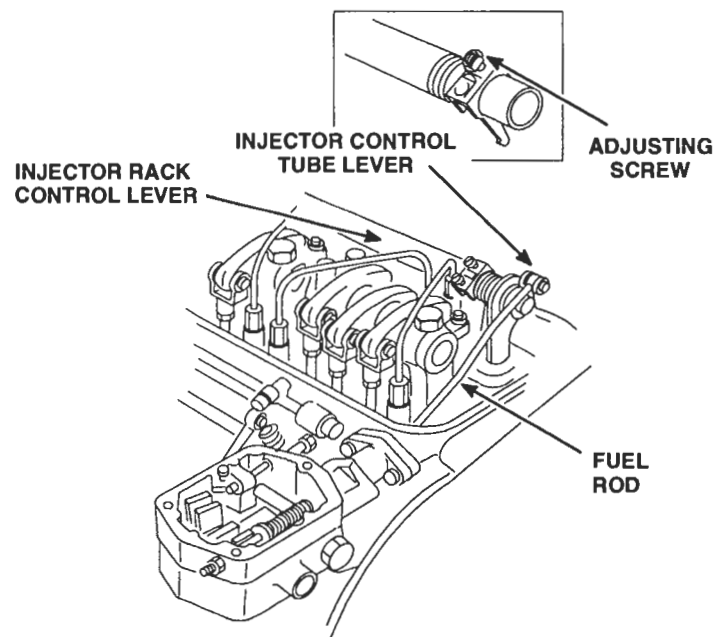

Figure 2. Positioning No. 1 Injector Rack Control Lever
1. **Two Screw Assembly** — Turn the outer adjusting screw in until a slight movement of the injector control tube lever is observed (Figure 2.) Tighten the inner adjusting screw.
One Screw and Locknut Assembly — Turn the adjusting screw in until a slight movement of the injector control tube lever is observed (Fig. 2). Then, turn the adjusting screw 1/8 of a turn more and lock securely with the adjusting screw locknut.